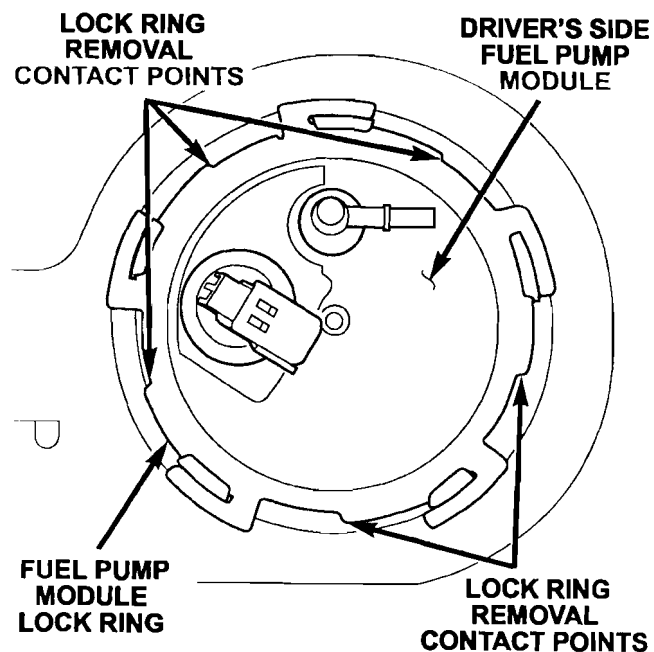

Figure 6
7. Using a brass punch and hammer, remove the driver's side fuel pump module lock ring (Figure 6).
NOTE: Use a brass punch to rotate the lock ring 1/4 turn. Make contact only at the points shown in Figure 6.